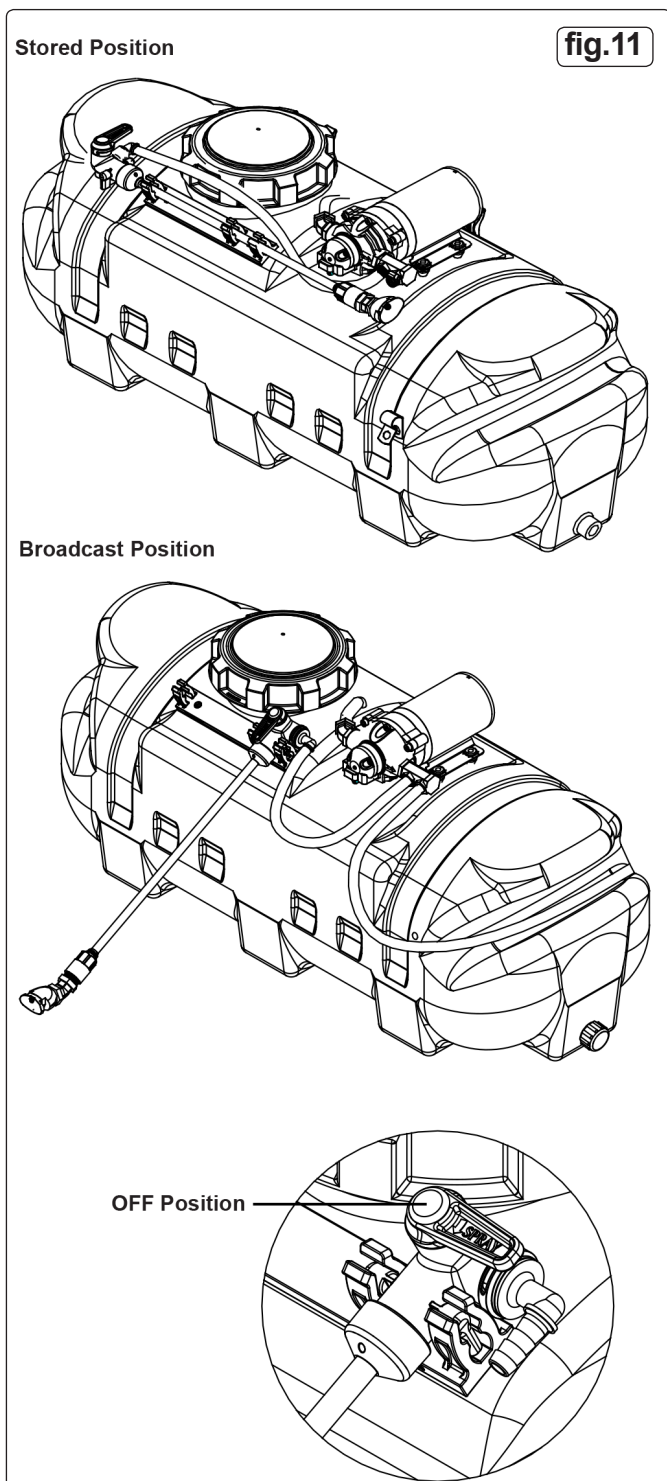

fig.11
- 8.1.1 Move the broadcast lance into the broadcast position (fig.11).
- 8.1.2 Ensure the broadcast lance valve is in the OFF position (fig.11).